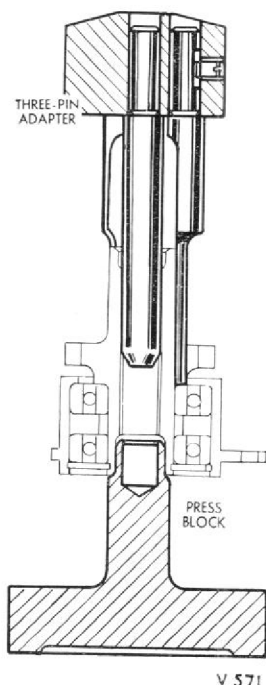

Fig. 7. Three-pin adapter T.77749 and press block T.77750 for removing bearing housing from port hydraulic pump.
3. Place the centre mandrel of the three-pin adapter T.77749 in the bore of the gear and the pins through the three holes in the gear web; press off the ball bearing housing complete with the two ball bearings, Fig. 7.